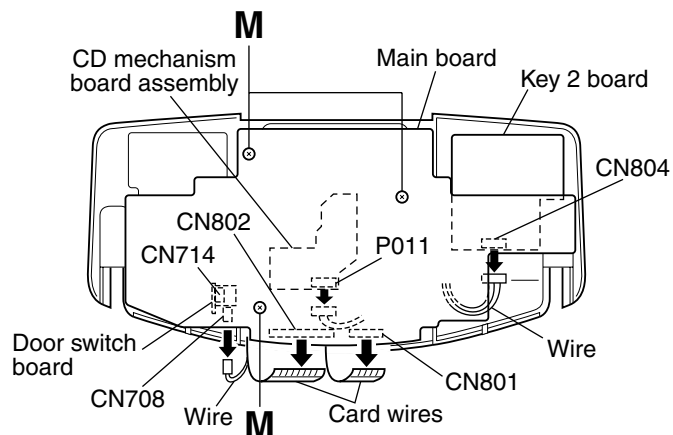

Fig.14
(See Figs.14 to 16)
2. Disconnect the wire and card wires from the connectors CN708, CN801 and CN802 on the main board. (See Fig.14.)
3. Disconnect the wire from the connector CN804 on the key 2 board. (See Fig.14.)
4. Disconnect the wire from the connector CN714 on the door switch board. (See Fig.14.)
5. Disconnect the wire from the connector P011 on the CD mechanism board. (See Fig.14.)